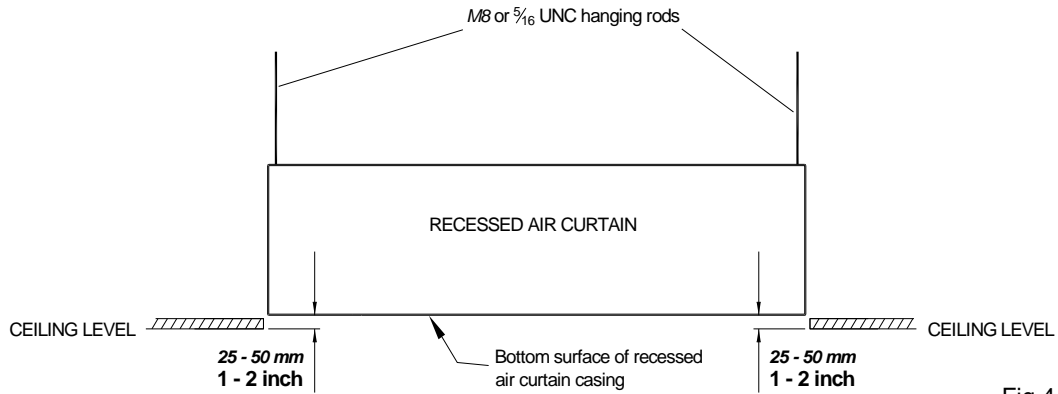

Fig 4
**Step 4** Adjust the height of the unit on its hanging rods so the bottom surface of the casing goes between 25-50mm or 1 to 2 inches up into the ceiling as shown in Fig 4. Ensure the unit is level.